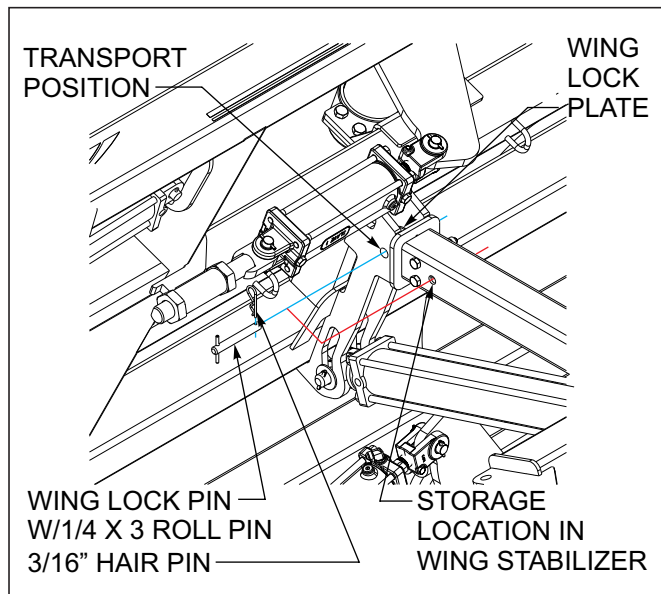

Figure 4-6: Wing FoldTransport Locks
5. To fold/unfold the VT Plus, find a level area large enough to accommodate the VT Plus when it is fully unfolded. The tractor should be stopped and not moving with the unit fully raised. Remove the wing lock pins from the mounts and install them in the storage locations (See Figures 4-6).
1. Raise the unit to take the weight off of the transport locks. Remove the transport locks from the lift cylinders (on the main frame only). Store the transport locks on the retainers above the main lift (See Figure 4-6.)
2. Remove the wing lock pins and store in the extra hole in the hinge bracket. Unfold the wings and extend the fold cylinders completely (See Figure 4-6.)